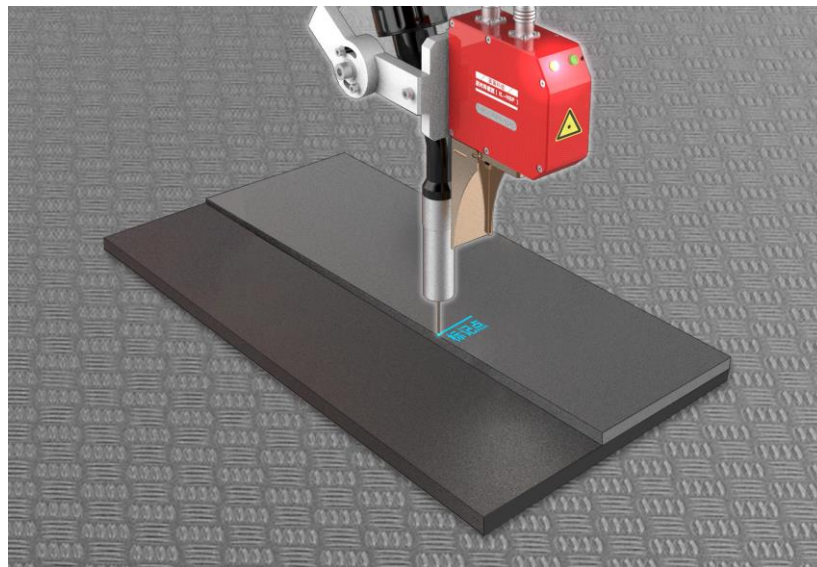

Figure 8-17 Diagram of the position of the gun tip
Step2. Move the robot to move the welding torch to the marked feature point on the sample, click <Record>, the X in front of it will turn into ✓ after recording. The robot position of the torch tip point is shown in Figure 8-17.